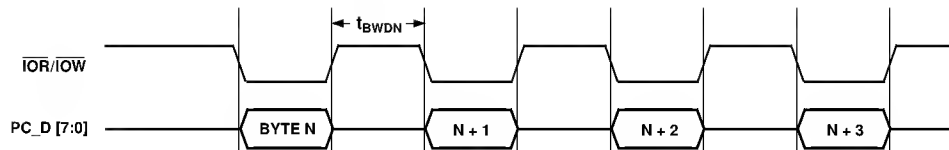

Figure 15. Codec Transfers
After setting format bits, sample data into the AD1821 must be ordered according to Figure 15, Table VI.
CFMT [1:0]	(RW) Capture Format. Use these bits to select the format for capture data according to the following Table VI and Figure 15.